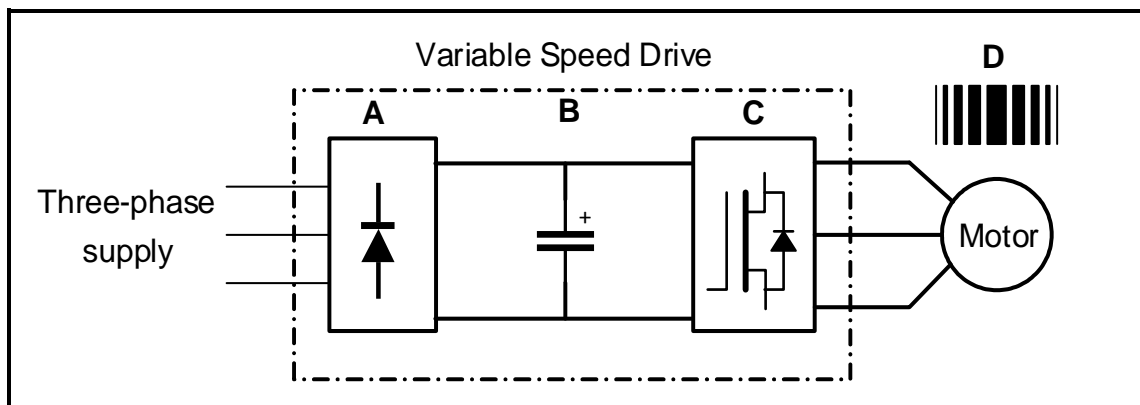

FIGURE 7.6: VARIABLE SPEED DRIVE
7.6 FIGURE 7.6 below shows the basic block diagram of a variable speed drive. Answer the questions that follow.